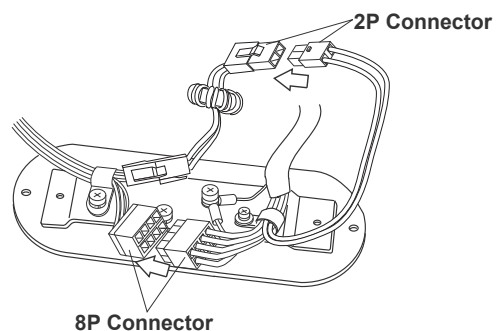

**Fig.3-13A** Attaching Grounded Wires on Bottom Cover
4. Secure 2 wires (Grounded wires) together with the (M5 x 10mm) screw on the bottom cover. (Fig.3-13A)
Note : Two ring terminals should not protrude from a chassis plate. (Fig.3-13A)